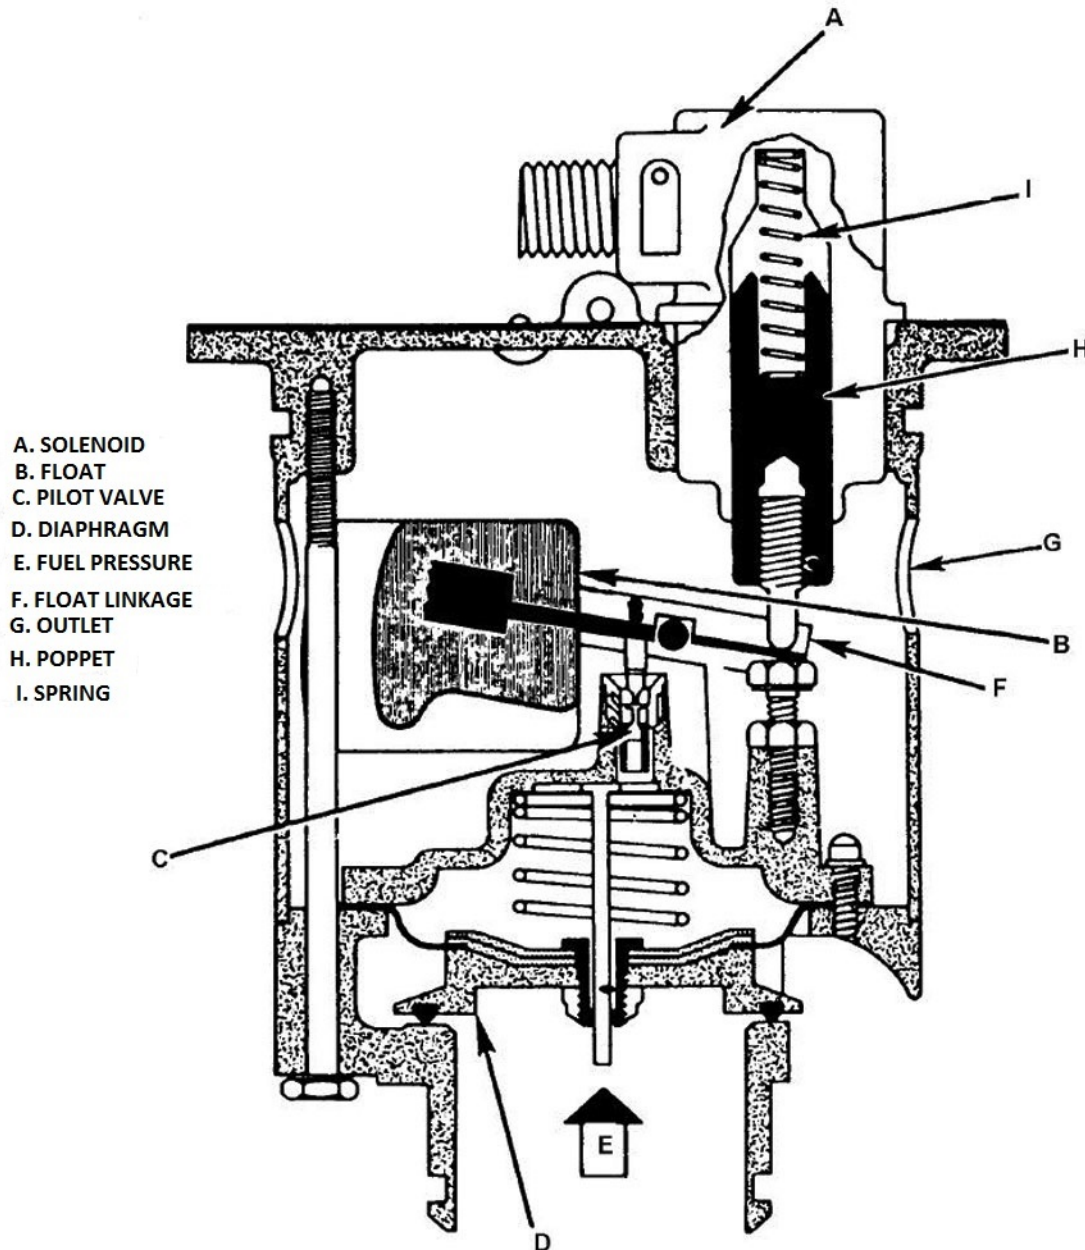

Figure 3-6. Diaphragm-type fuel-level control valve.
A cutaway illustration of a diaphragm-type fuel-level control valve is shown in figure 3-6. This type of valve is operated hydromechanically and controlled electrically. Fuel pressure (E) pushes the diaphragm (D) open and allows fuel to enter the tank. Fuel passes through the orifice in the center of the diaphragm, the float-controlled pilot valve (C), and the outlet (G). When the float rises, a hydromechanical operation takes place within the valve, shutting off fuel flow.